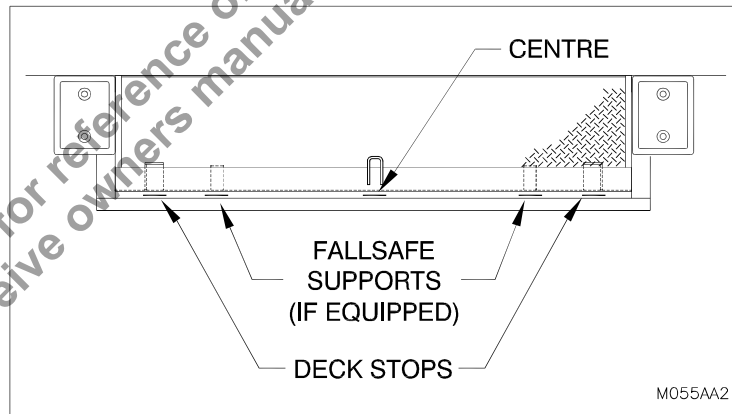

Figure 5: Shim Front Frame
14. ___ Lower the dock leveler to the stored position and shim the front frame under the two deck stops and in the center of the dock leveler until the deck plate is flush with the top of the front curb angle and the floor. For units equipped with Mechanical Fallsafe, also shim beneath the fallsafe supports. (See "Figure 5: Shim Front Frame" on page 7 for shim placement.)